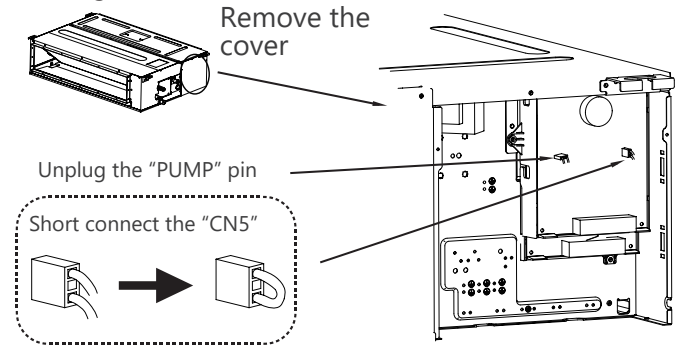

Fig. AI-3: Disable The Water Level Sensor
1. Open the cover of the E-Parts Box assembly, unplug the "PUMP" pin to disable the pump function, and short-connect the "CN5" plug to disable the water level sensor. (See Fig. AI-3)
2. Follow Step 1 (Fig. AI-3) steps to disable the pump. For the unit with an external pump, the whole pump assembly can be removed. Then connect the drainpipe to the drain connector. (See Fig. AI-4)